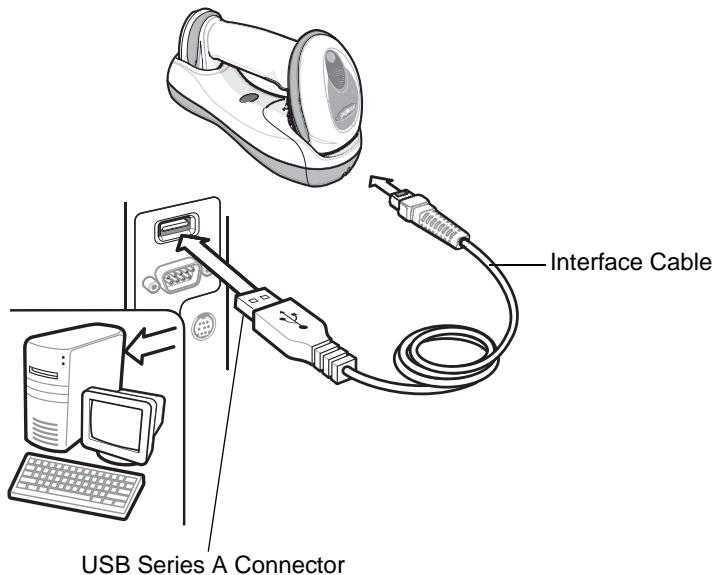

Figure 6-1 *USB Connection*
**NOTE** Interface cables vary depending on configuration. The connectors illustrated in *Figure 6-1* are examples only. The connectors may be different than those illustrated, but the steps to connect the digital scanner cradle remain the same.